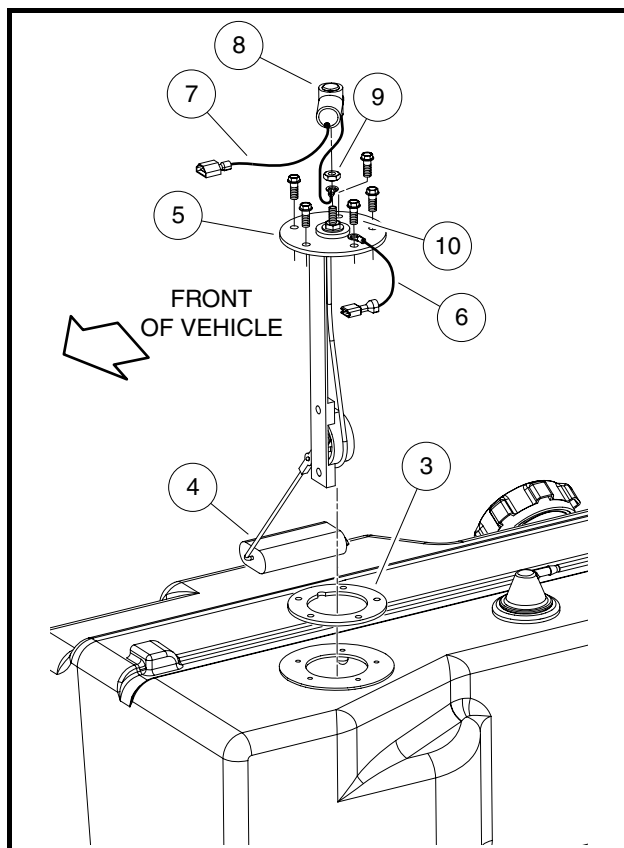

Figure 13b-15 Fuel Level Sending Unit Removal
4. Remove the rubber boot (8) from the center post on the fuel level sending unit. Remove the nut (9) from the center post, and remove the orange wire (7) (**Figure 13b-15, Page 13b-15**). Retain the hardware.
5. Remove the hex-head plastic thread screw (10) securing the black ground wire (6) to the fuel level sending unit, and remove the black ground wire. Retain the hardware.
6. Remove the four remaining hex-head plastic thread screws from the fuel level sending unit flange (5). Retain the hardware.
7. Carefully remove the sending unit and gasket (3). Feed the rheostat arm and float (4) through the fuel tank hole. Immediately place the fuel level sending unit in a pan to catch fuel. **See following DANGER and NOTE.**